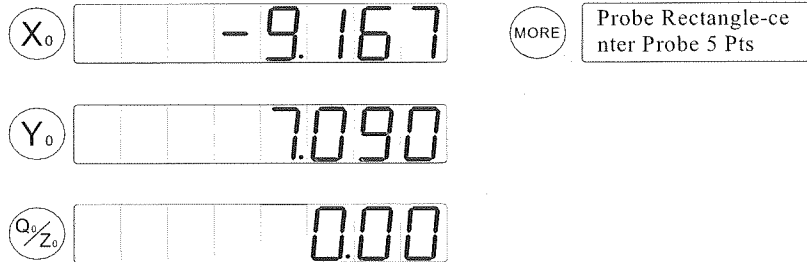

Figure 2-52 Rectangle Measure
4) Press the  key to measure a Rectangle, and the message is displayed as in figure 2-52.